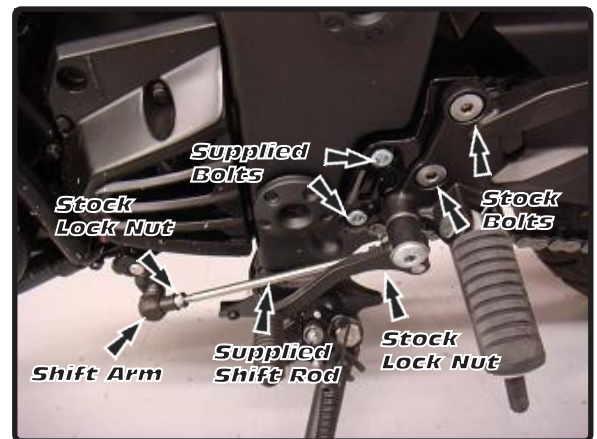

Fig. 1
2. Clean stock bolts and apply a medium strength thread lock (included) to stock and supplied bolts. See parts diagram to install Yoshimura right rearset bracket to frame using supplied bolts and washer. Install stock rearset onto desired position (See Fig. 1). See chart on front page for positions available.